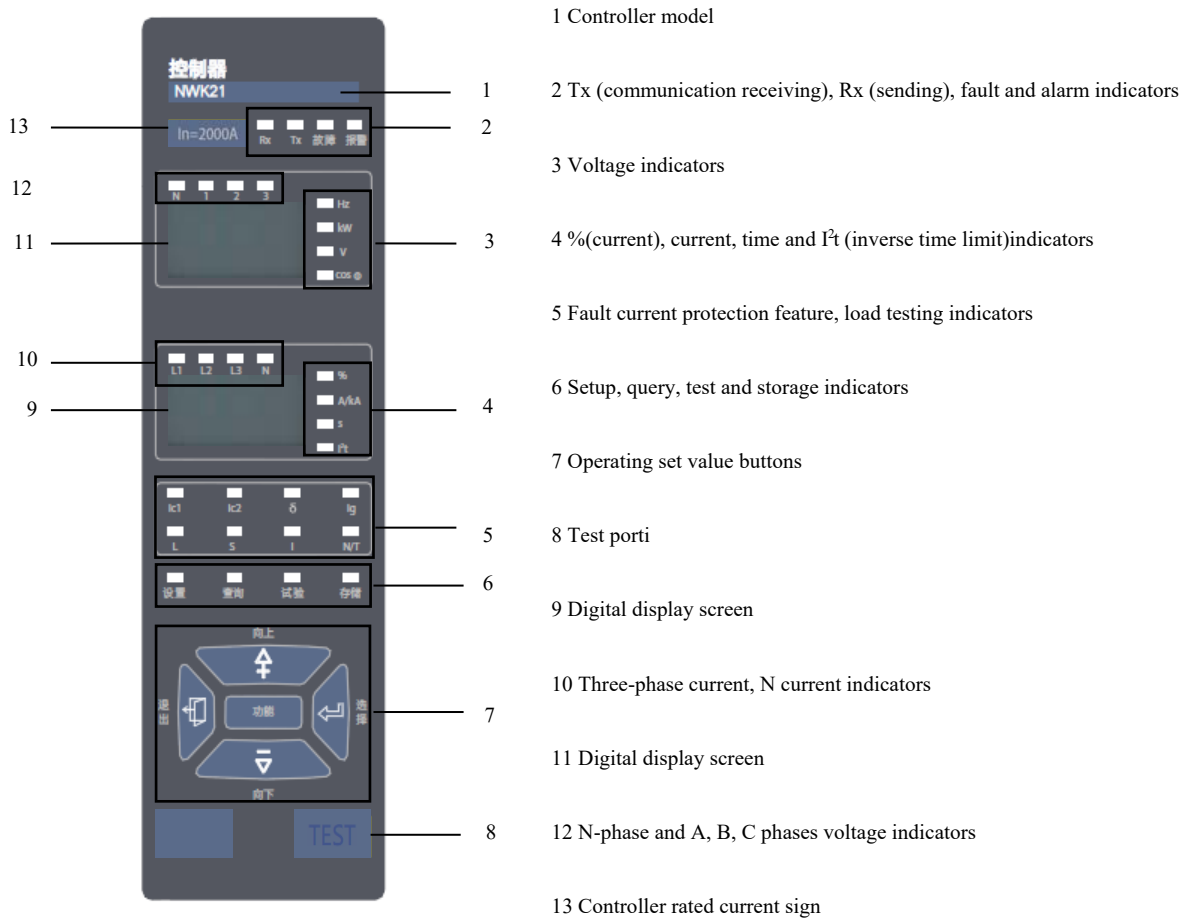

Figure 6
3) NWK21 controller, as shown in Figure 6